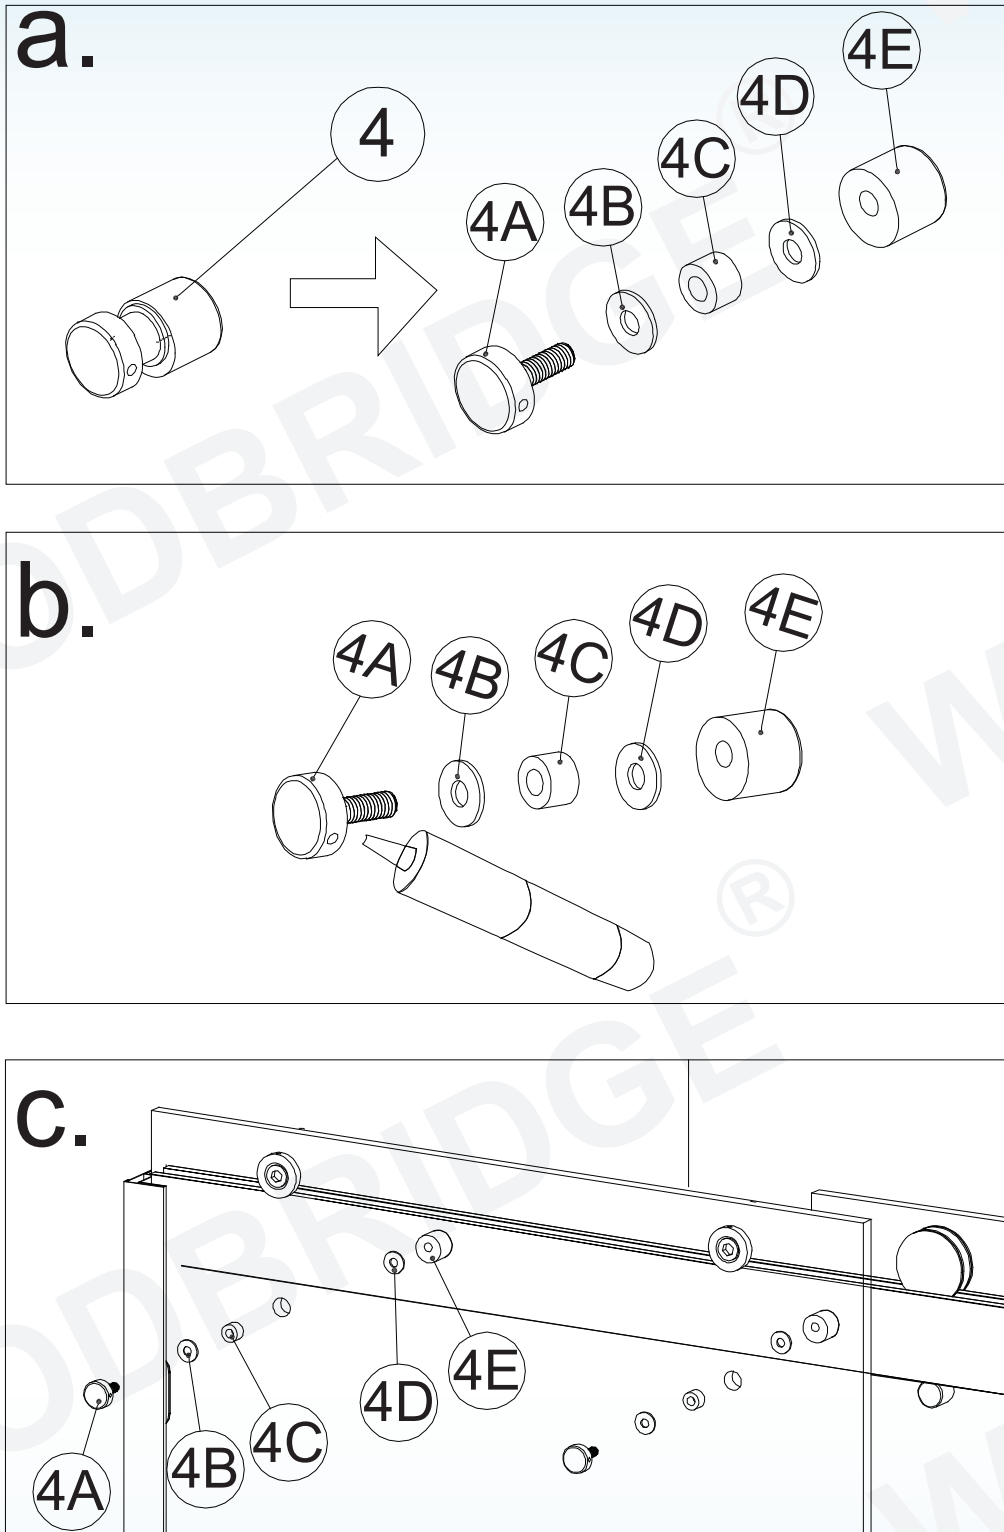

Fig 18
18. Disassemble the Safety Pin (4) and put some screw silicone to the screw of the Safety Pin and then install the Safety Pin to the Glass Doors (7). Make sure the clear gasket and washer are put between the glass and the metal part should not touch the glass. Please see Fig 18 for details